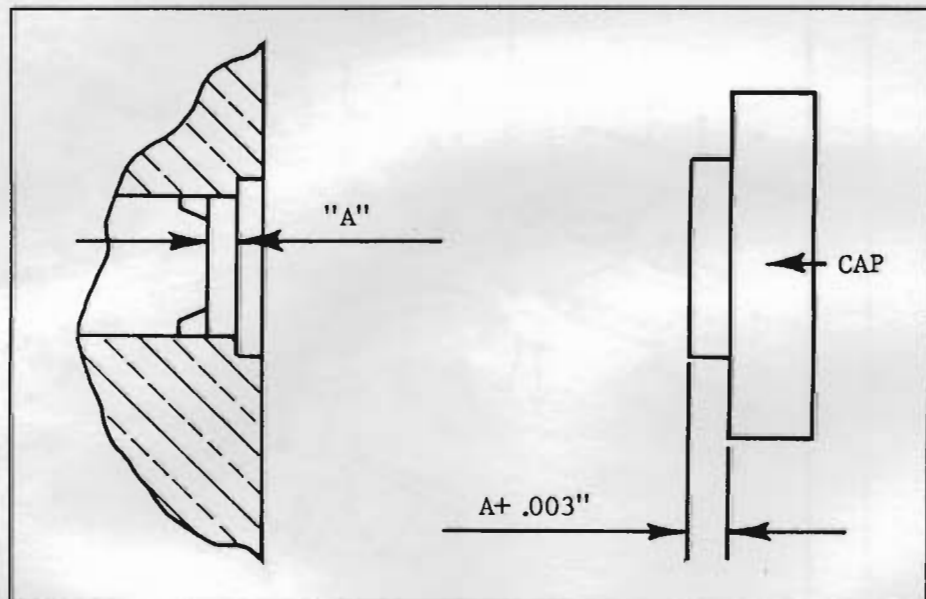

Figure 3-5
3. To set the preload, remove the cam shaft bearing cap (42-19749) and push the outer race of the bearing firmly against the bearing itself. Measure the distance "A" from the finish in the bed counterbore to the face of the bearing outer race (Figure 3-5).